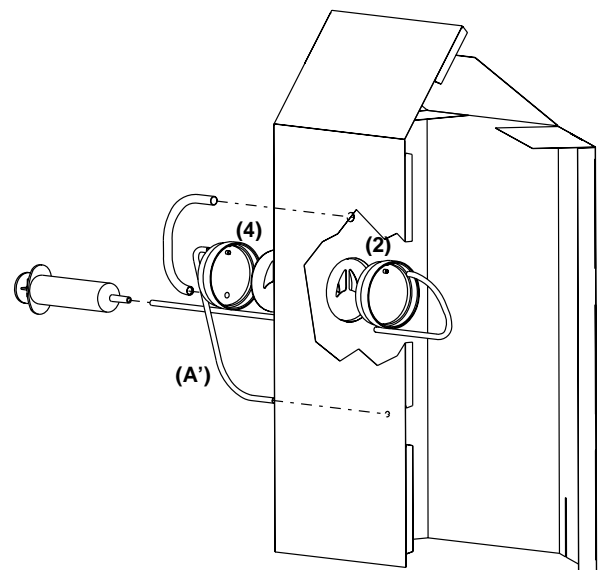

Figure 3
- Press (from the inside face) the front cover of the lung chamber **(2)** in the round opening on the support panel. The alignment slot and the orifice are oriented to the top (see Figure 3).